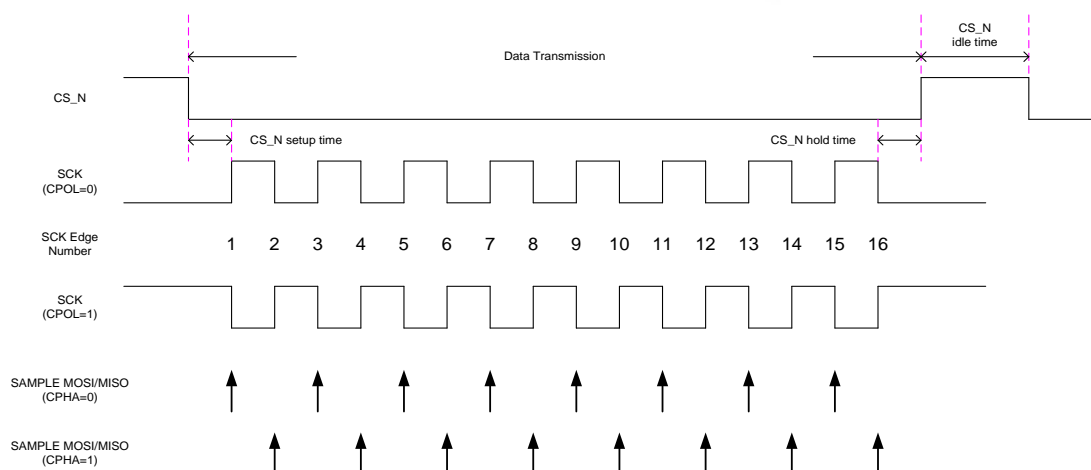

Figure 7-7. SPI Transmission Formats
- Configurable CS_N setup time, hold time and idle time (see Figure 7-7)